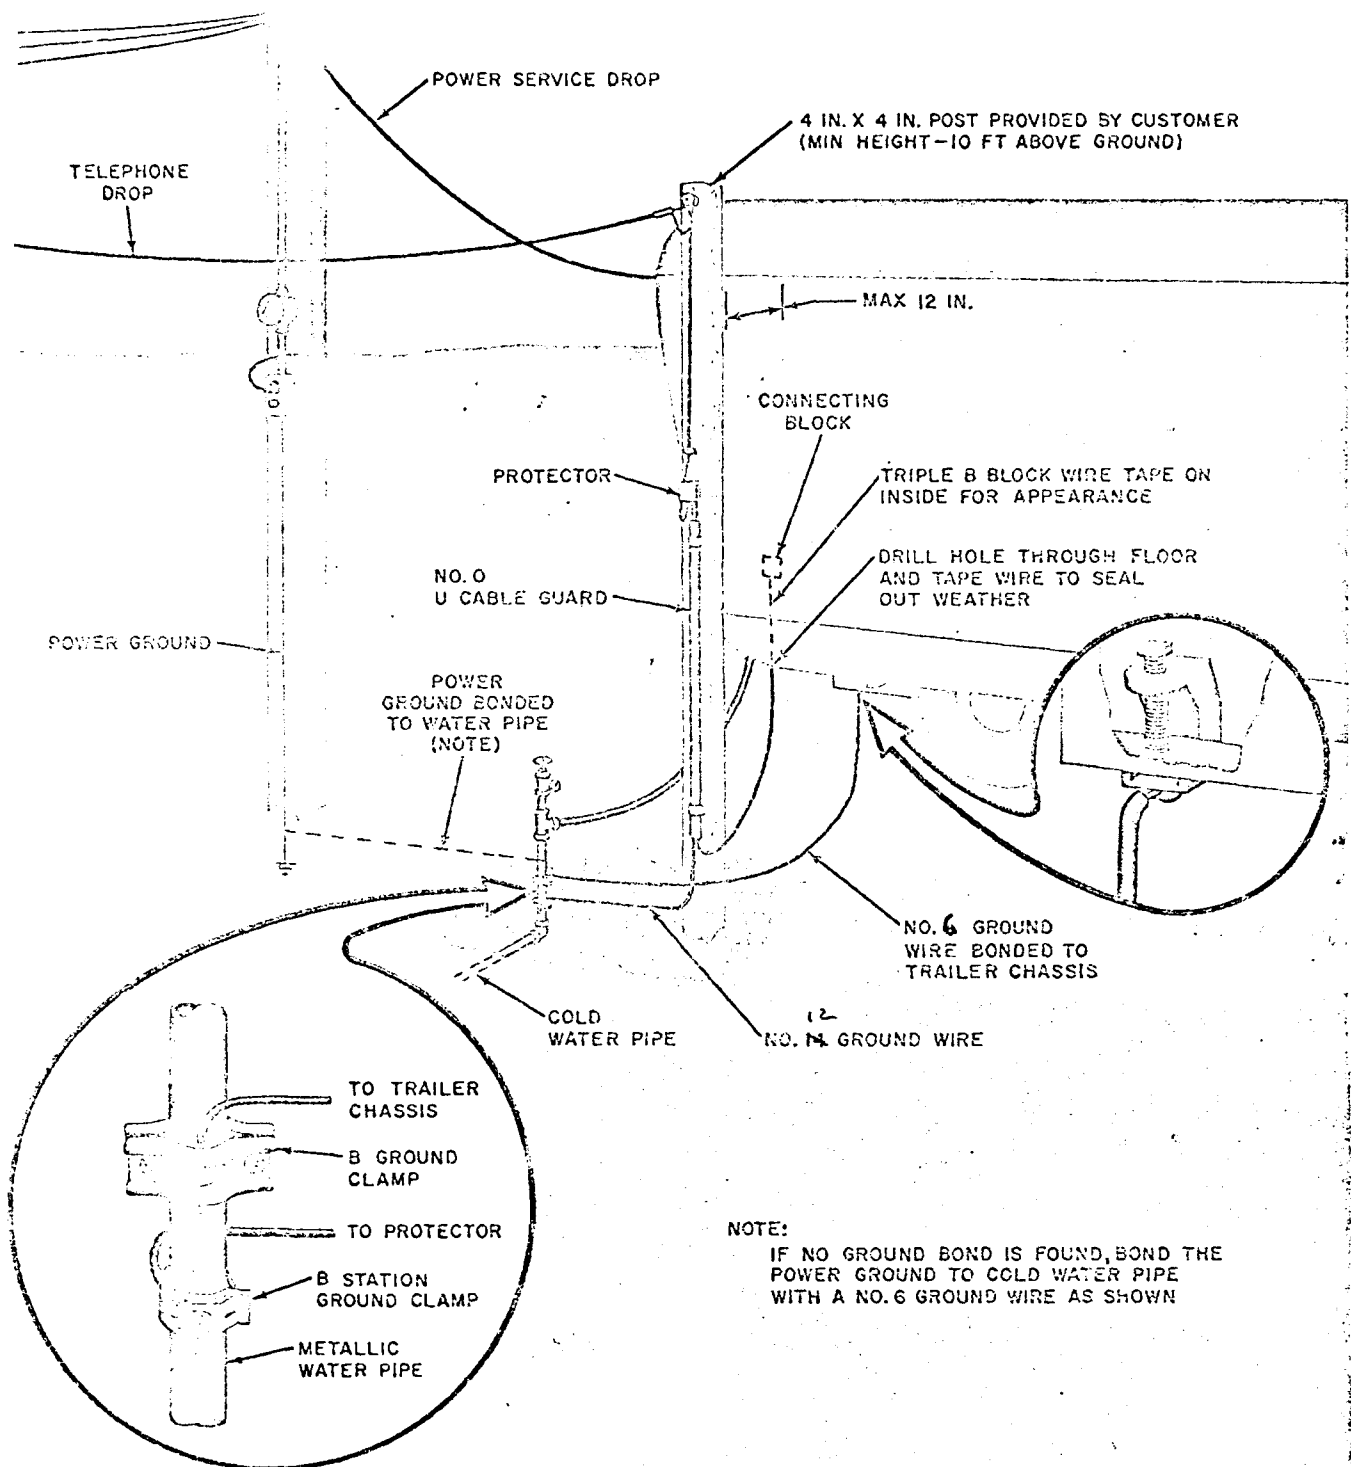

Fig. 3—Grounding Methods—Aerial Distribution
4.01 Installations generally vary, depending on the type of facilities provided by the customer. Typical grounding arrangements are shown in Fig. 3 and 4.
4.04 Use a suitable size B, C, or D Insulator Support to bond the mobile home chassis to the protector ground terminal or station ground. Attach the insulator support to a flange on the structural member of the mobile home chassis (Fig. 3 through 6).